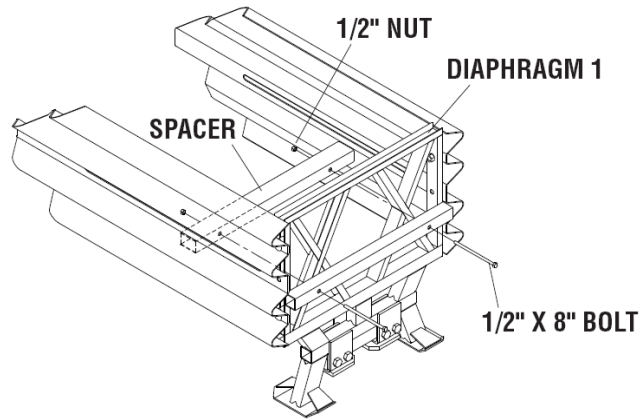

Figure 33
- C. Using 1/2" x 8" bolts and 1/2" nuts, attach Spacer to rear of Diaphragm 1 (Figure 33).